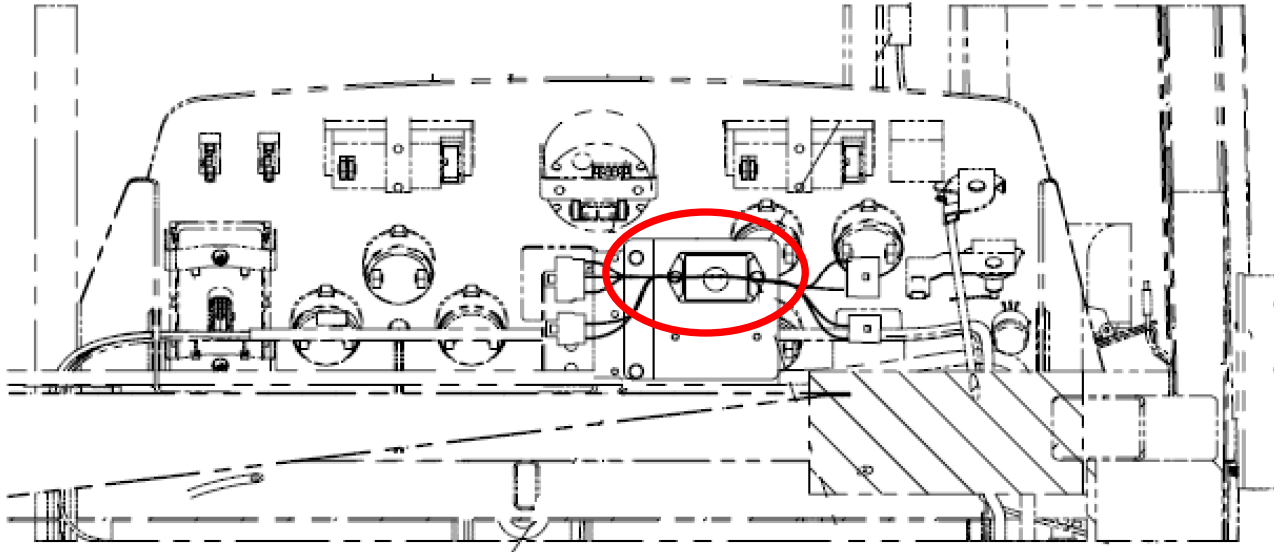

Figure 1: Wiper relay module as seen from the back of the driver's dash
3. Locate the wiper relay module. Refer to Figure 1.